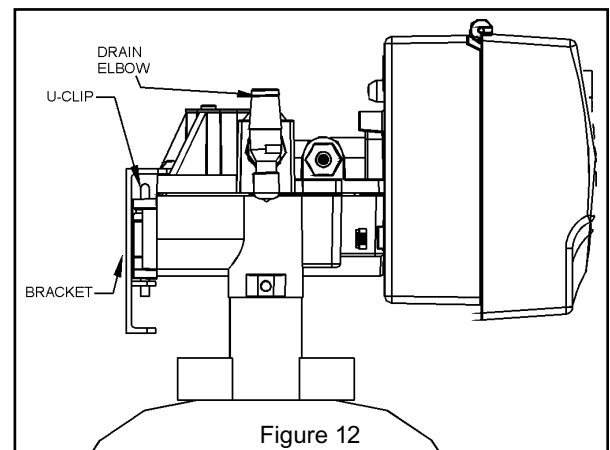

Figure 12
**Caution!** When reinstalling back plate to control valve, make sure the u-clip fully engages the two bottom holes of the bracket (Figure 12). Secure bracket from the top with the two mounting screws provided.
Refer to Figure 12 and Table 2, under the applicable tank size for drain line length and height limitations.